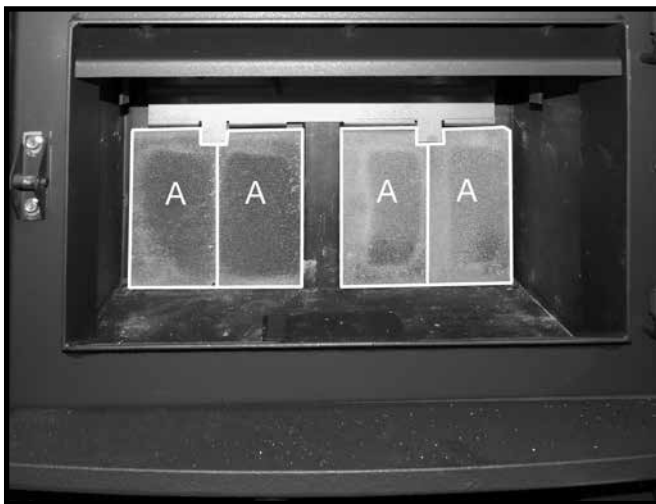

Figure 19. Remaining rear wall firebricks in place.
3. Repeat steps 1 & 2 for the placement of the other "A" firebricks on the rear wall Figure 19.